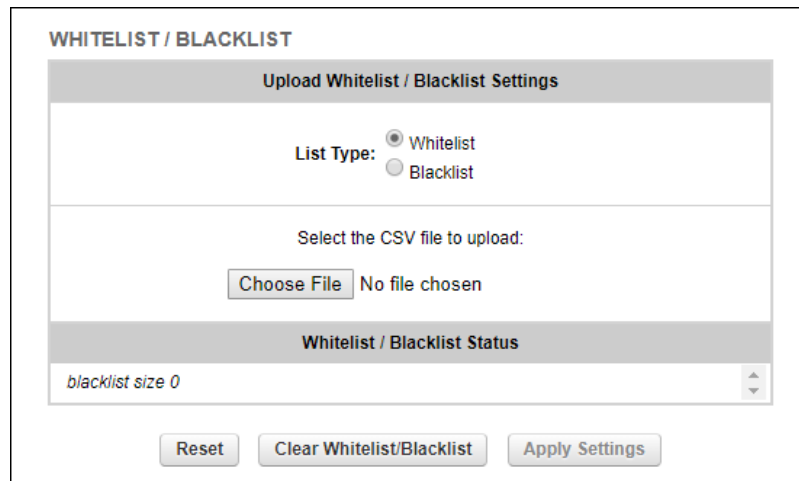

Figure 37. Configurator (Pass list / Block list dialog)
- The **Pass list / Block list** dialog will be shown (Figure 37 \(page 101\)).